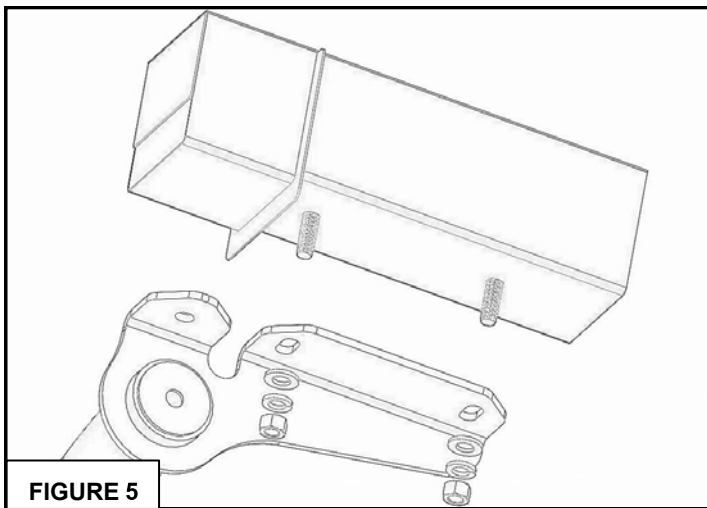

FIGURE 5
5. The hitch assembly can now be raised to the uni-body channels. Fasten the hitch to the already in-stalled stud plates with the provided M12 flat wash-ers, split lock washers and hex nuts. No not fully tighten at this time. FIGURE 5,6.